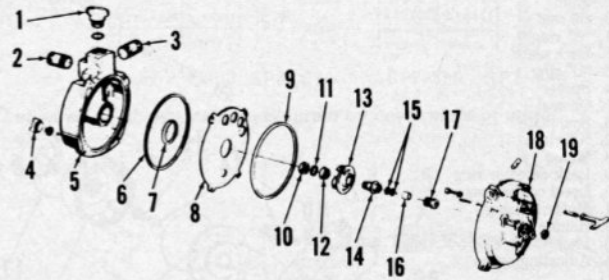

Fig. HL20-1—Exploded view of Model 121TP2-1 and 121TP2-1A trash pump. Model 112TP2 is similar but washers are used in place of spacer (16)
DISASSEMBLY AND REASSEMBLY. Disassembly of pump is evident after inspection of unit and referral to exploded view in Fig. HL20-1, HL20-2 or HL20-3. Impeller on Models 112TP2, 121TP2-1, 121TP2-1A and 123TP4 is resiliently mounted on a plastic bushing that allows the impeller to slip slightly when a solid object jams the impeller. This stalls the engine gradually, avoiding damage to the unit.
Impeller hub (14-Fig. HL20-1 and 16-Fig. HL20-3) is threaded on engine crankshaft and must be turned counterclockwise for removal. Impeller on all other models is threaded on engine crankshaft. Remove impeller by tapping impeller in counterclockwise direction. It may be necessary to pry wear plate (10-Fig. HL20-3) out of end housing on Models 123TP4, 160TP4-1, 160TP4-1A, 160TP4-1B and DTP4-1.
Proper location of impeller on Models 112TP2, 121TP2-1 and 121TP2-1A is determined by shims (15—Fig. HL20-1) which are available in thicknesses of 0.010 and 0.015 inch. There should be 0.020-0.030 inch clearance between impeller and wear plate (8).